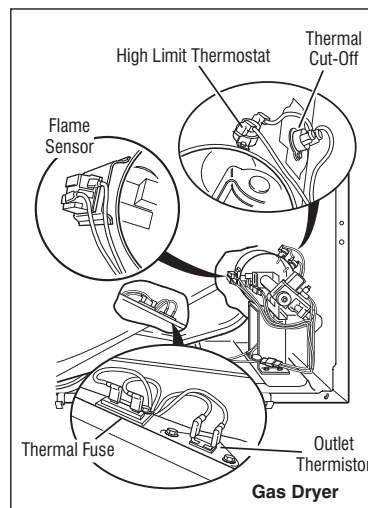

Figure 2 - Thermal components, gas dryer, viewed from front.
5. Locate the high limit thermostat (see figure 2, page 3-14). Measure the continuity through it by connecting the meter probes to the red and black wire terminals.